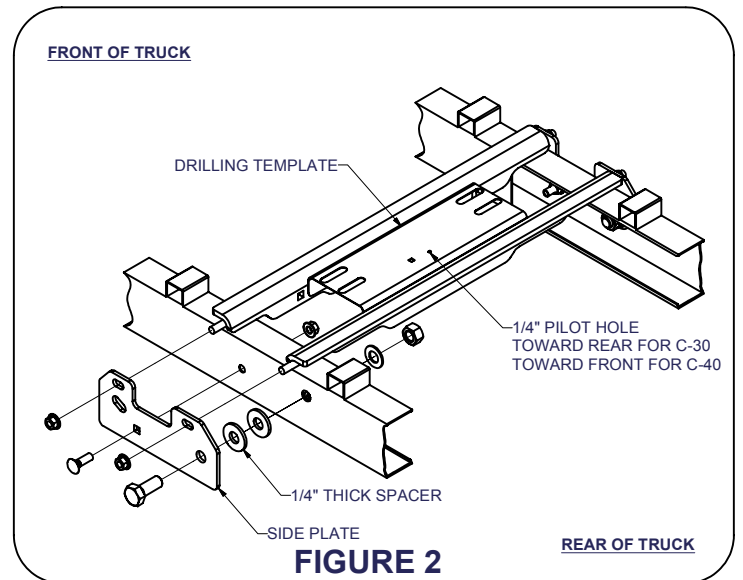

FIGURE 2
- 3) Align the side plates with the 3/4" slot in the frame. Place the 3/4" hex bolt through side plate, 1/4" thk. spacers, and frame. Use a 3/4" flange nut to secure in place as shown in **Figure 2**. Finger tight only.
- 7) With side plates and rear cross arm secure, position the drilling template provided between the cross arms. Attach the template to the rear cross arm with two 5/8" carriage bolts and flange nuts provided with the center section. Tighten the 5/8" flange nut with a 15/16" socket. **As shown in Figure 2**